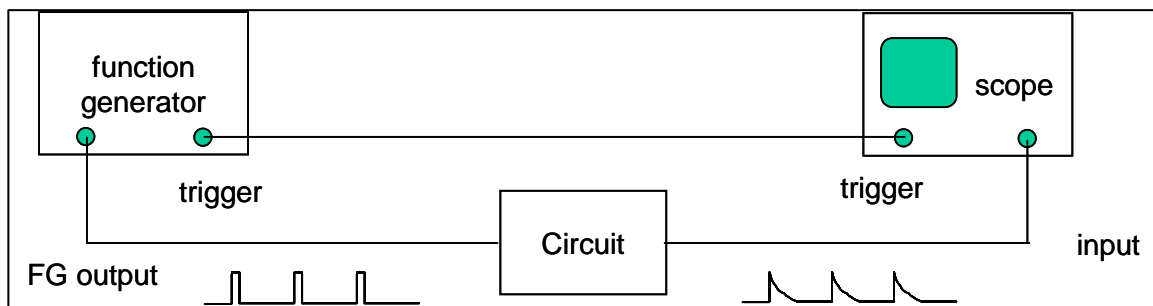

Figure 4. Experimental test setup for measuring the impulse and step response of the SUT.
The basic test setup is shown in Figure 4. The trick is to be able to create a “unit step” and an “impulse” waveform to test the system. Of course, we cannot create either of these two ideal waveforms in our part of the universe. However, we can create reasonable approximations.
1. Set up the laboratory equipment as shown in Figure 4. Be sure to use the higher frequency capability function generator (why?). Record your equipment setup diagram. Construct your RC circuit using the values of R and C you determined in the Prelab exercises. Calculate the *actual* time constant for your circuit using actual measured component values.
2. Determine the waveform setting for the function generator shown in Figure 4 for simulating a step input waveform for this circuit. Record these settings on the setup diagram in your notebook, and justify them.
4. Determine the waveform setting for the function generator shown in Figure 4 for simulating an impulse waveform for this circuit. Record these settings on the setup diagram in your notebook, and justify them. What is the area of *your* lab impulse?